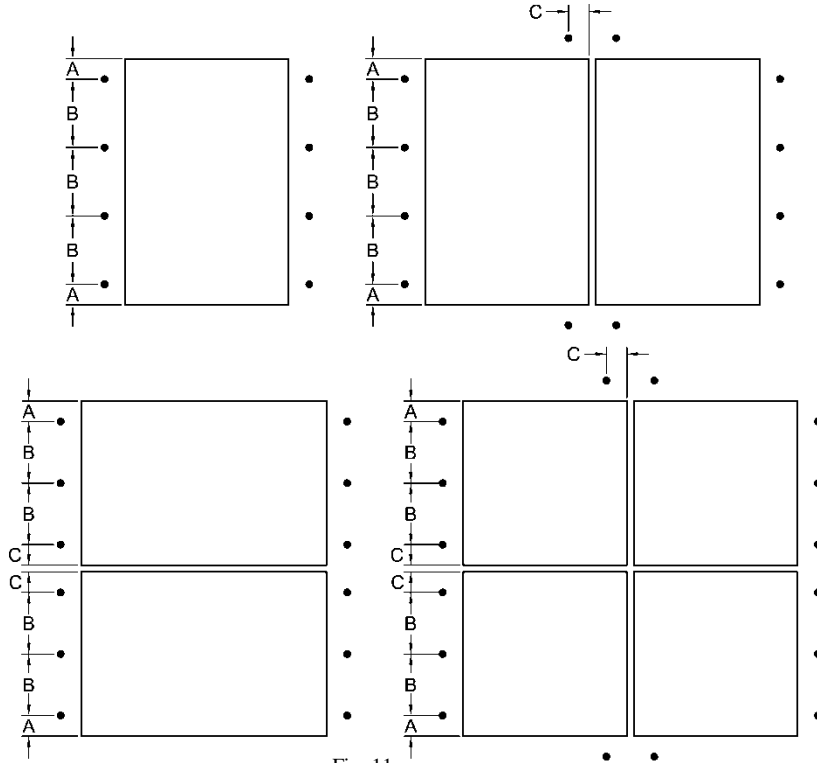
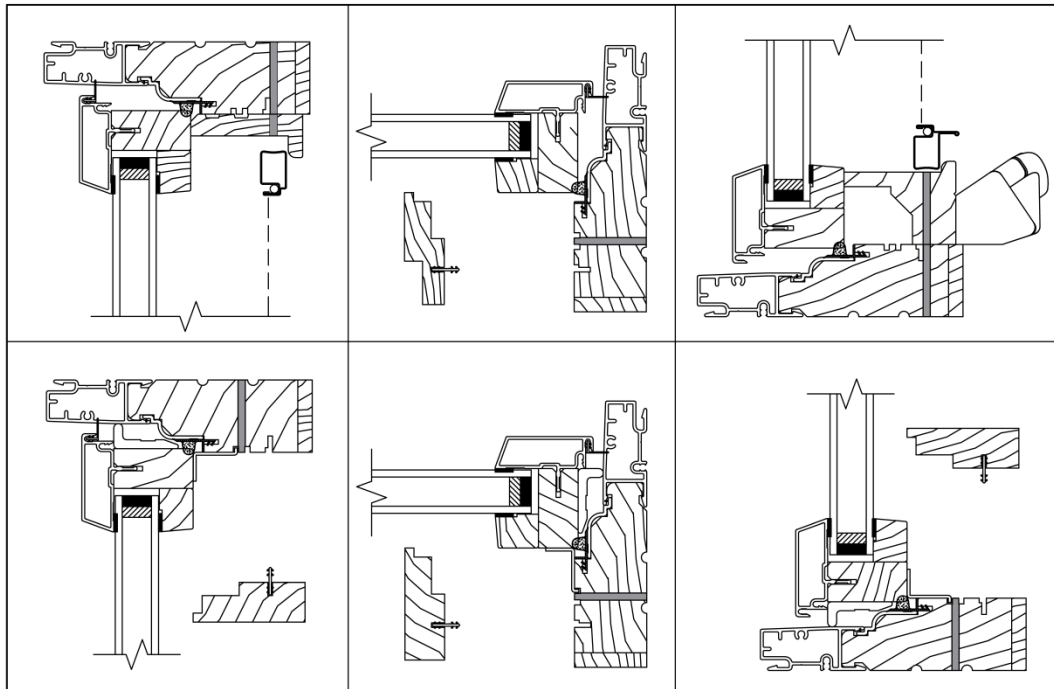

Fig. 11
Fig. 12
- B. Locate the pre-drilled installation holes in the side jamb. Drill additional 1/8" dia. installation holes in the side jambs per the spacing schedule below (Fig. 11). **FOR MULLED UNITS:** Do not drill through operator cut-outs on sill cover of operating units, head and sill stops are removable on picture units. Pre-drill locations are shown in the sections in Fig. 12.